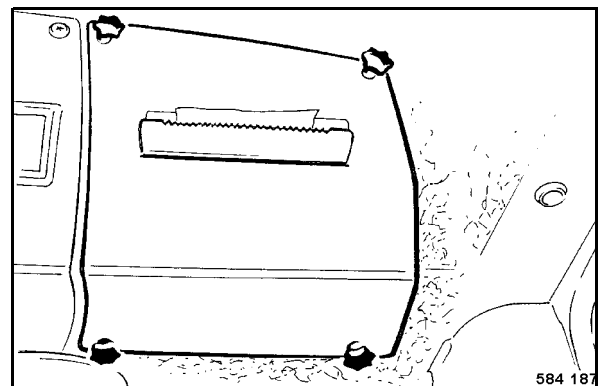

Fig. 107
- Unscrew the star handles (Fig. 107) and remove the cover.